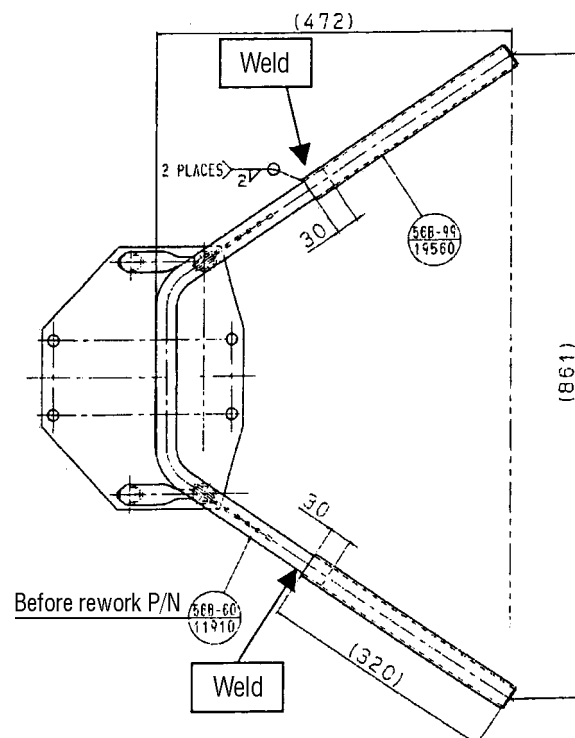

Fig. 3
- 3) Weld the pipe (56B-99-19560) to connect to the top end of the cut pipe. (Refer to Fig. 3.)